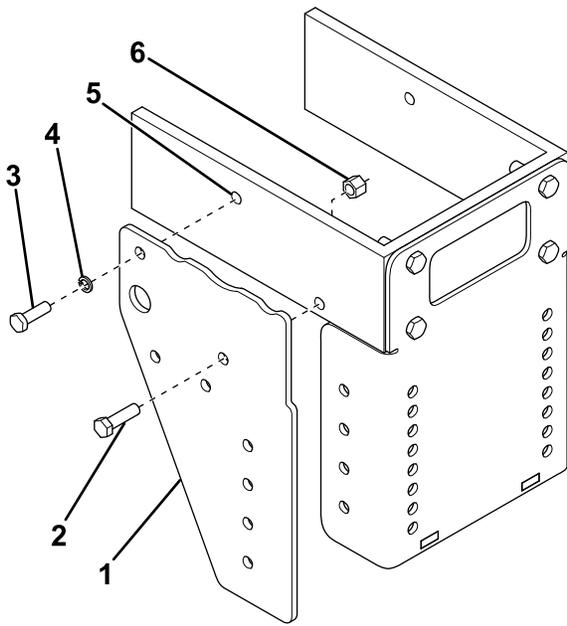

Figure 2
3. On the right side of the frame, remove the existing bolt in the hole indicated in Figure 2.
- Secure the rear of the right sideplate using a bolt (M12) and lockwasher (Figure 2).
- Secure the front of the right sideplate using a bolt (1/2 x 1-3/4 inches) and nut (Figure 2).